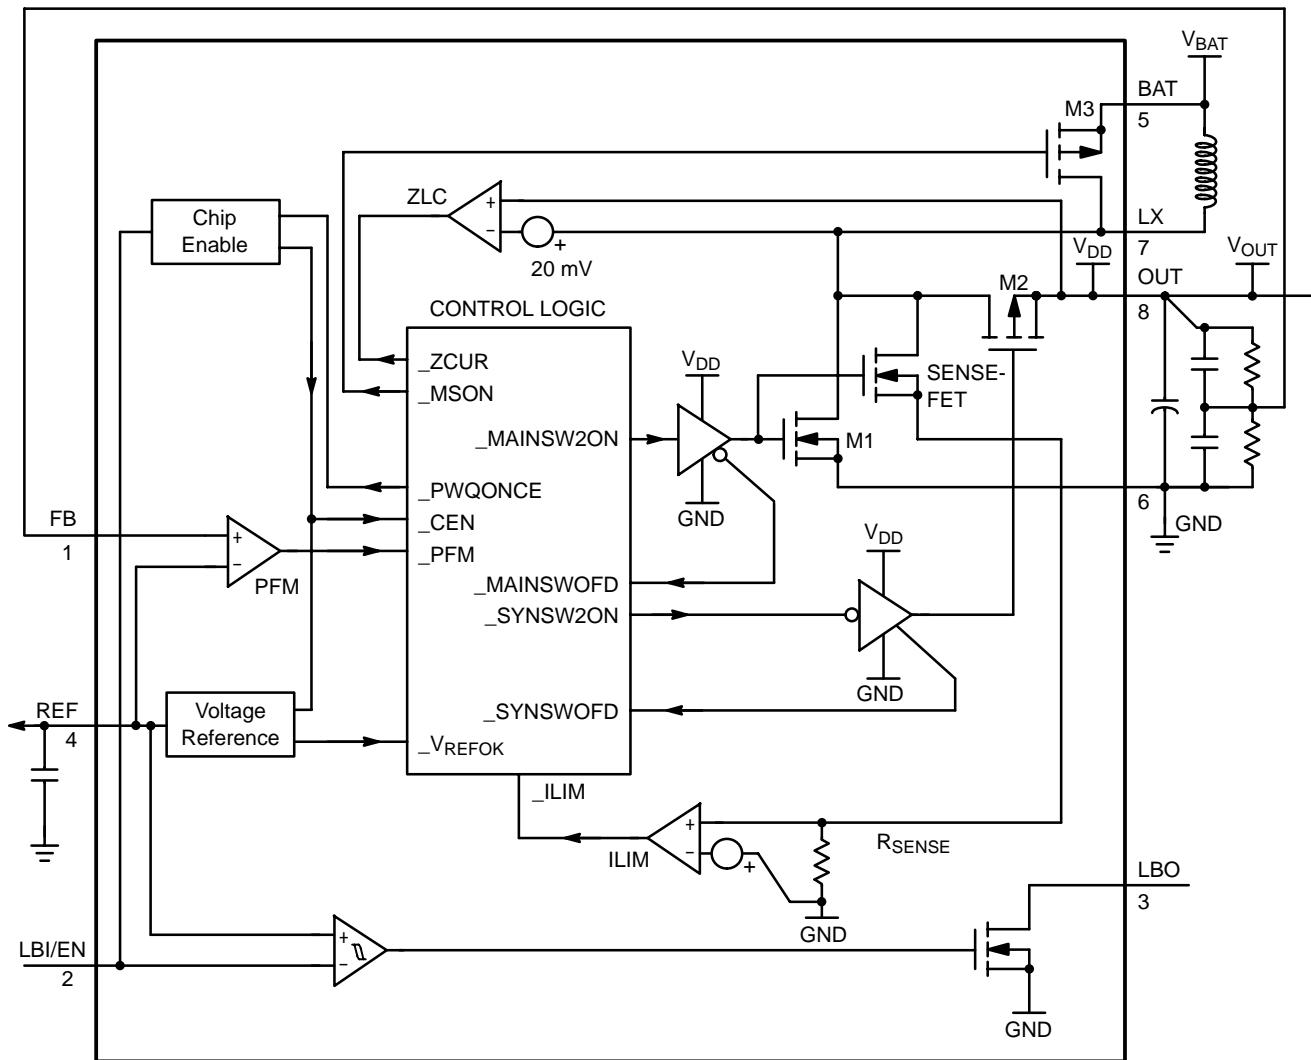

Figure 2. Simplified Functional Diagram
From the simplified Functional Diagram (Figure 2), the output voltage is divided down and fed back to pin 1 (FB). This voltage goes to the non-inverting input of the PFM comparator whereas the comparator's inverting input is connected to REF. A switching cycle is initiated by the falling edge of the comparator, at the moment, the main switch (M1) is turned ON. After the maximum ON-time (typical 1.4 μ S) elapses or the current limit is reached, M1 is turned OFF, and the synchronous switch (M2) is turned ON. The M1 OFF time is not less than the minimum OFF-time (typical 0.31 μ S), this is to ensure energy transfer from the inductor to the output capacitor. If the regulator is operating at Continuous Conduction Mode (CCM), M2 is turned OFF just before M1 is supposed to be ON again. If the regulator is operating at Discontinuous Conduction Mode (DCM), which means the coil current will decrease to zero before the next cycle, M1 is turned OFF as the coil current is almost reaching zero. The comparator (ZLC) with fixed offset is dedicated to sense the voltage drop across M2 as it is conducting, when the voltage drop is below the offset, the ZLC comparator output goes HIGH, and M2 is turned OFF. Negative feedback of closed loop operation regulates voltage at pin 1 (FB) equal to the internal voltage reference (1.190 V).
From Figure 2, SENSEFET is applied to sample the coil current as M1 is ON. With that sample current flowing through a sense resistor, sense-voltage is developed. Threshold detector (ILIM) detects whether the sense-voltage is higher than preset level. If it happens, detector output signifies the CONTROL LOGIC to switch OFF M1, and M1 can only be switched ON as next cycle starts after the minimum OFF-time (typical 0.31 μ S). With properly sizing of SENSEFET and sense resistor, the peak coil current is set at 1.0 A typically.